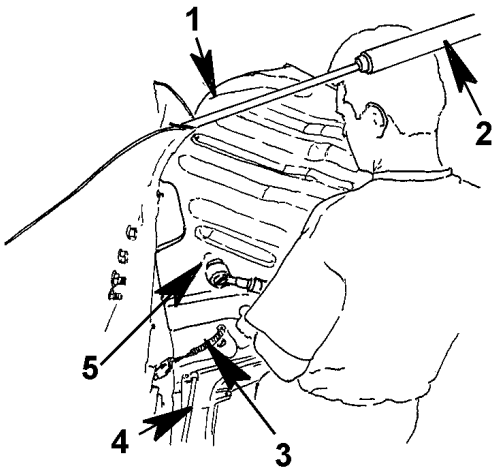

Figure 31 Splash Panel Install (Driver Side Shown)
7. Position the hood / fender splash panel on the inner fender of the hood / fender assembly (Figure 31, Item 5). Install the 2 forward mounting bolts and lock washer to the hood / fender assembly.